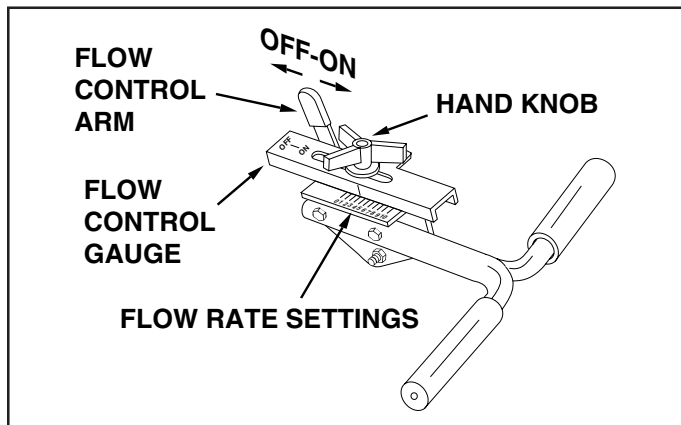

FIGURE 15
1. Pull the flow control arm back against the flow control gauge for the "ON" position. This opens the closure plate in the bottom of the hopper and starts the material flow. See figure 15.
1. Push the flow control arm forward for the "OFF" position. This closes the closure plate in the bottom of the hopper and stops the material flow. See figure 15.
3. Loosen the hand knob and move the flow control gauge to the recommended setting and retighten the hand knob. See figure 15.